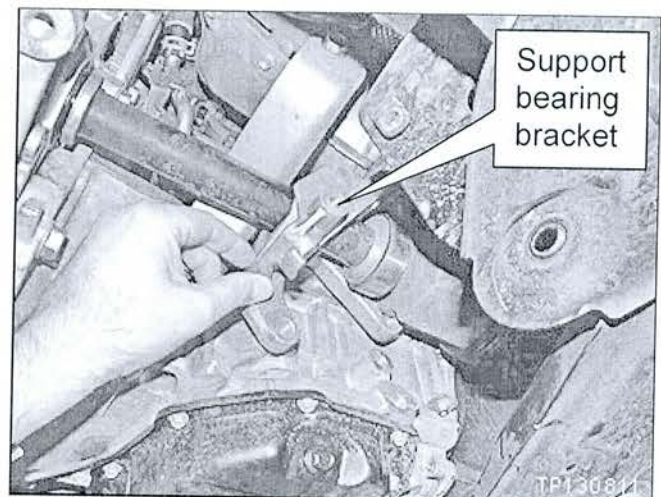

Figure A4
- The support bearing bracket will not be completely removed. It will stay loose on the axle during the procedure, as shown in Figure A4.